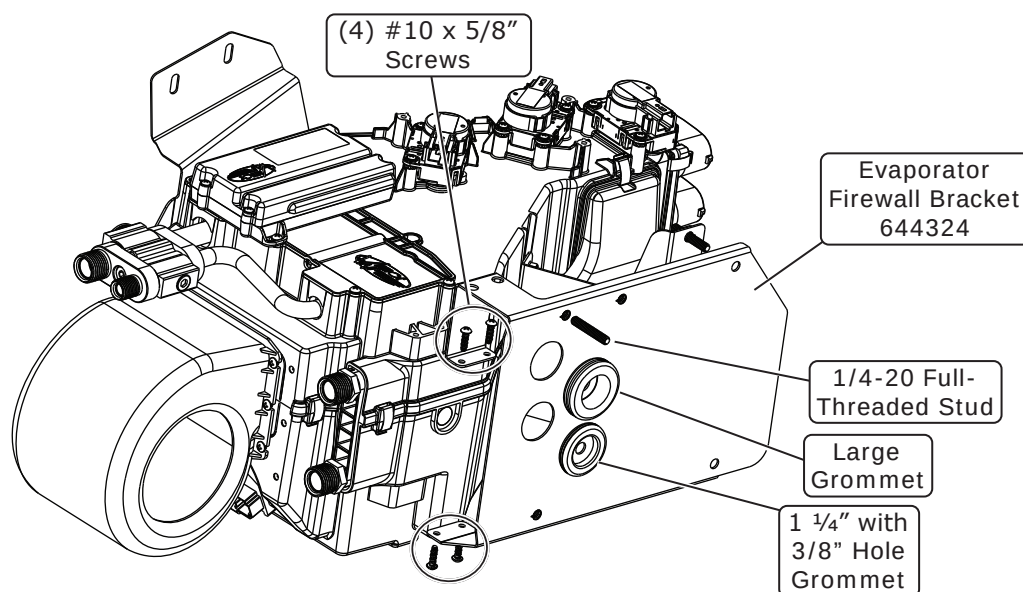

Figure 3
10. Install the evaporator firewall bracket onto the evaporator module with (4) #10 x 5/8" screws (See Figure 3, below).
11. Install the grommets as shown in Figure 3, below.
12. Install a 1/4-20 full-threaded stud onto the evaporator firewall bracket as shown in Figure 3, below.